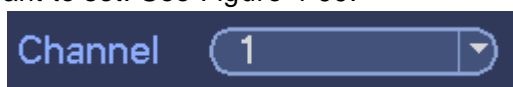

Figure 4-99
- ✧ Select a channel you want to set. See Figure 4-99.